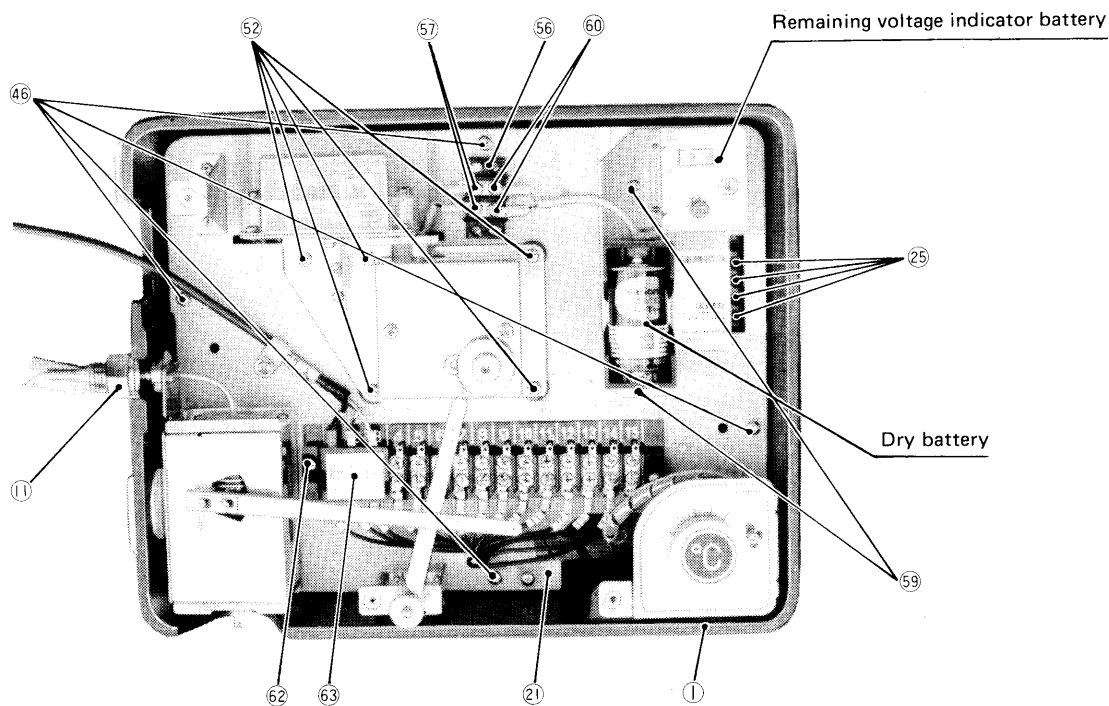
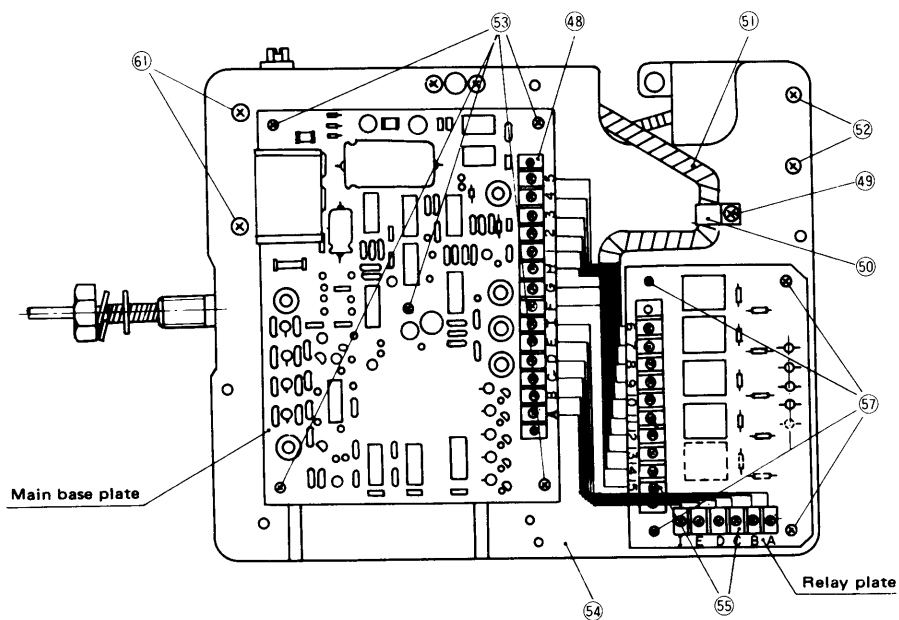

Fig. 3 Internal structure
Fig. 4 Internal device assembly
- (1) Remove the recording plate from the body (1) (See Article 2.2.2●) When it is removed, it looks as shown in Fig. 3. In this state, sensor, timer, remaining voltage indicator and battery and dry battery are replaced.
- (2) Remove the internal device assembly. Loosen four hexagonal nuts (11) and screws (46) and remove the internal device assembly from the main body (1) and turn it back. Then it looks as shown in Fig. 4.
(2) Measuring resistance of the volume setter
- Adjust the volume setter as shown in Fig. 4 in accordance with Article 2.4.1.
- Remove the lead wires (3 pcs, F. G. H.) which are laid from the volume setter from the terminal (48) (14P) on the terminal strip of the main base plate and measure resistance between G and H of the lead wires.
(3) Replacing points
- From the state of the volume setter as shown in Fig. 4, loosen screw (49), remove power source plug (50), remove the spiral tube (51) from the wires. Then remove two screw bolts (52) and the volume setter can be removed from the base (54).
- After replacing the volume setter with a new one, inspect and adjust it in accordance with Articles 2.3.1. ① and 2.3.1. ②
② Main base plate
(1) Replacing standards
- In case the volume setter shows the phenomena as stated in Article 2.4.2. ① Replacing standards and yet it has no trouble or the same phenomena take place after replacing the volume setter.
(2) Replacing points
- Remove the wires (14 pcs Nos A ~ H, 1 ~ 5) from the terminal strip (48) on the main base plate.
- Remove 5 screws (53) to remove the base (54) from the main base plate, so replace it with new one.
- After replacement, inspect and adjust it in accordance with Articles 2.3.1. ① and 2.3.1. ②
③ Relay base
- Adjust it as shown in Fig. 4 in accordance with Article 2.4.1.
- Remove the wires (16 pcs No. A ~ E, I, 6 ~ 15) from the terminal strip (55) on the relay base plate.
- Loosen four screws (57), and the relay base plate can be removed from the base (54). So replace the relay base plate with a new one.
- In case the pilot lamps for functioning temperature (25) remain unlit although the power source is turned on.
- Remove the recording board, (state shown in Fig. 3). Loosen the screws (62) to remove protection board for impressed voltage (63) loosen terminal screws (Nos. 1 to 3) on the terminal strip (21) and remove the wiring. Then, measure temperature of the feeler part and resistance of the sensor and compare them with the characteristics of temperature resistance shown in Fig. 10, and if they do not accord with them, replace the sensor. If they accord, the main base plate or the volume setter is out of order. So replace it in accordance with Articles 2.4.2.① and 2.4.2.②
(2) Replacing method
- Since numbers (1, 2, 3. . .) are described on the sensor lead wires, so connect them to the terminals having the same number on the terminal strip (21).
- After replacement, inspect and adjust the sensor in accordance with Articles 2.3.1.① and 2.3.1.②
- Replace the recording board, and insert a battery so as not make a mistake in polarity as in the state of Fig. 3 (Fig. 3 shows polarity of a battery). It is advisable to use a battery similar to SUM-2 of JIS C8501 and R14 of IEC. (Dry battery DC1.5V)
② Remaining voltage indicator battery
- Remove the recording board (state shown in Fig. 3). Loosen two screw bolts (59) and two screw bolts (60), and the remaining voltage indicator battery can be removed from the indicator body. So replace it with a new battery.
- When replacing, connect the wires to the terminal strip (56) in a way red wire to red and black wire to black.
③ Timer (Quartz motor reducing gears)
- Although remaining voltage of dry battery is correct (confirmed in accordance with Article 2.2.2.③ the quartz motor does not start.